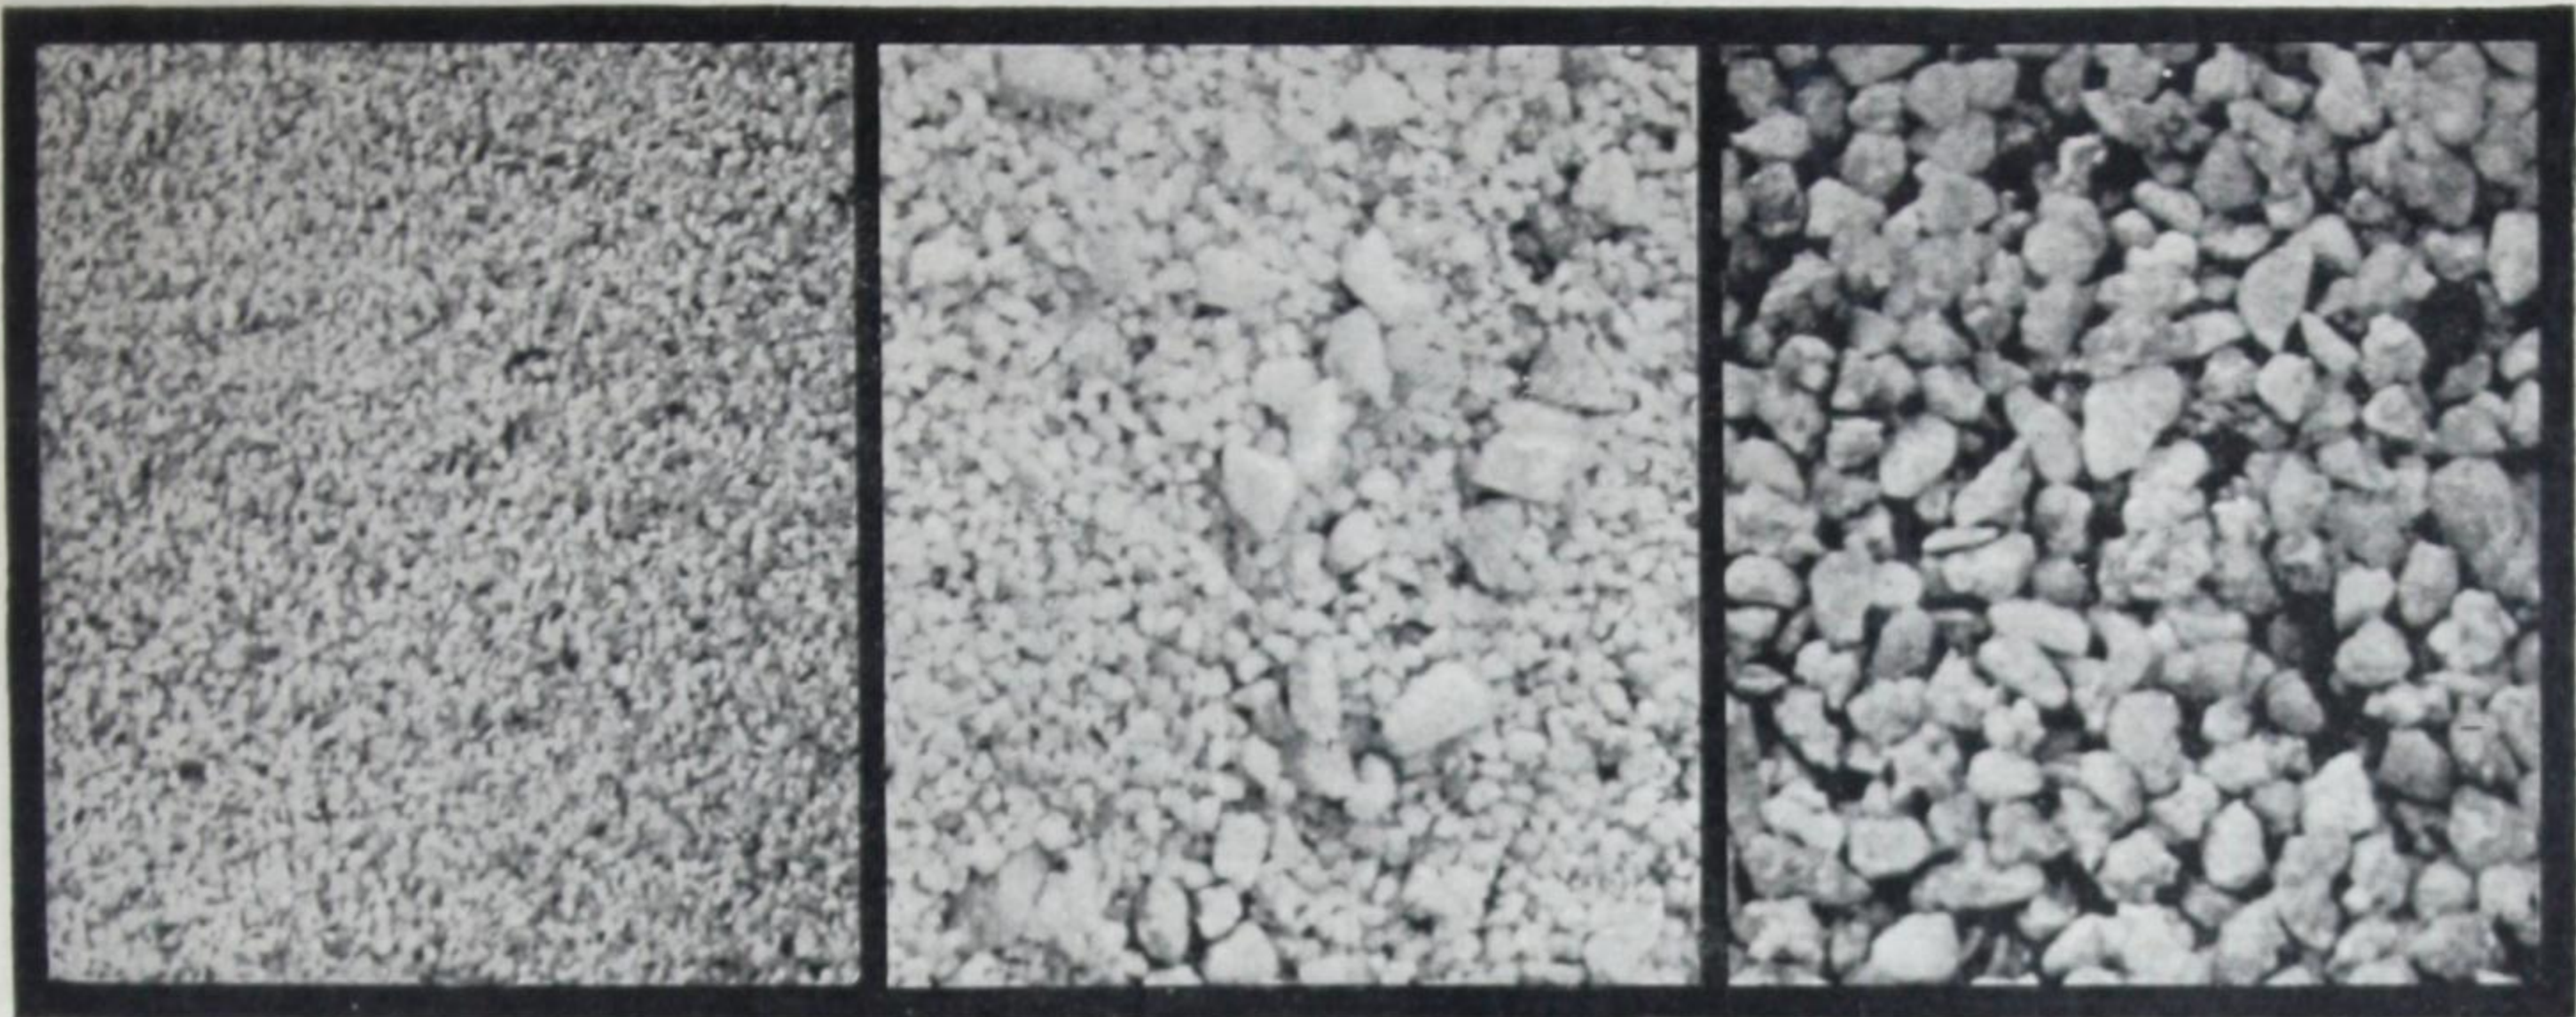

Fig. 2
13. It is essential that the sand should be a mixture of fine and coarse particles—with more particles coarse than fine. There must be some finer particles because these smaller particles fit about and between the coarse particles, and fill in the empty spaces or voids between them. Figure 2 shows fine, coarse and graded sand in actual sizes. The graded sand in the center is best, because it contains both fine and coarse particles.